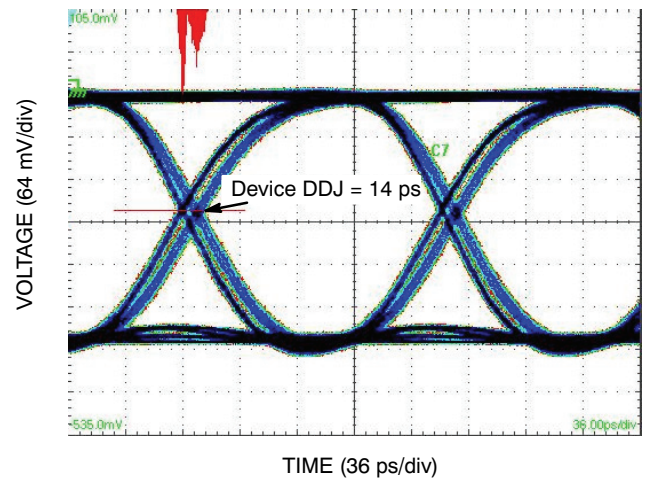

Figure 12. Typical Output Waveform at 6.125 Gb/s with PRBS $2^{23}-1$ ($V_{INPP} = 400$ mV; Input Signal DDJ = 15 ps)
8. Measured by forcing $V_{INPP(MIN)}$ from a 50% duty cycle clock source. All loading with an external $R_L = 50\ \Omega$ to V_{CC} . Input edge rates 40 ps (20% - 80%). See Figure 12 and 14.